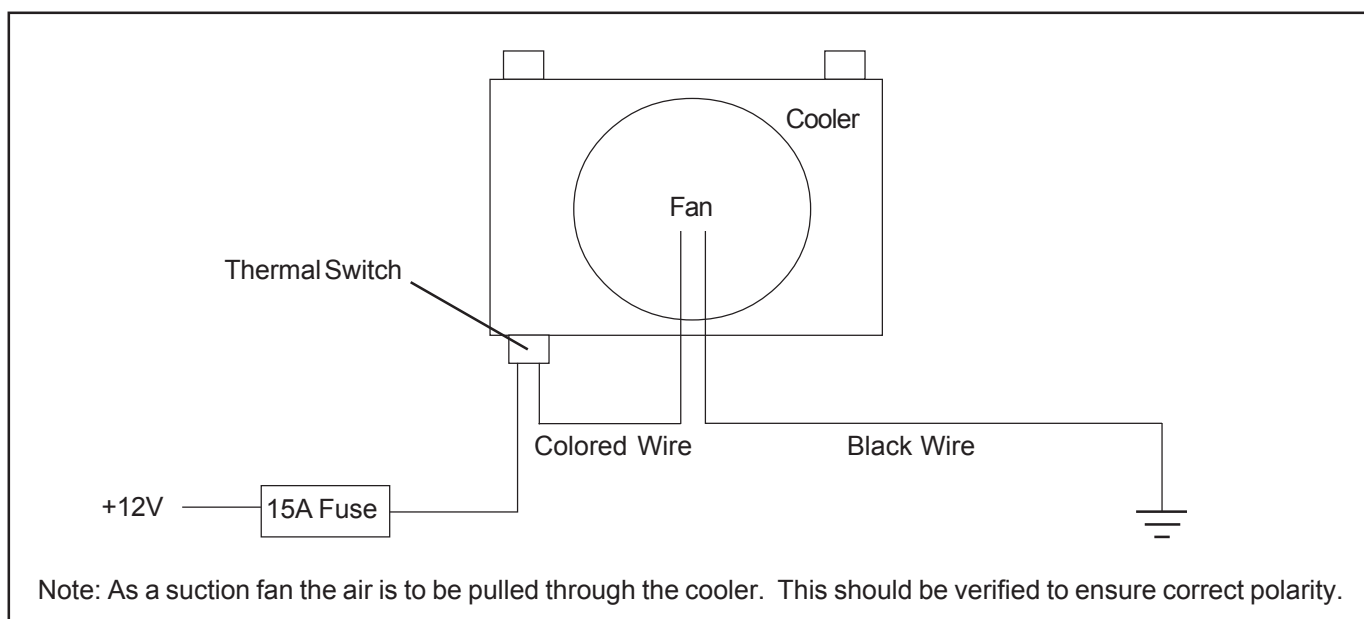

FIGURE 2
The cooling system is comprised of a plate-fin oil-to-air cooler. All channels are turbulized. The inlet-outlet fittings are 1/2" NPTF. The sensor fitting has an M16x1.5 thread. Also included is a 12V DC suction fan. As a suction fan the air is to be pulled through the oil cooler. This should be verified upon installation to ensure correct polarity to the fan. To prevent fan motor damage the maximum current draw should be protected with an in-line 15A fuse (see fig. 2). Furthermore, a bi-metal temperature switch controls the fan ON-OFF points:
STEP 2. Wire the thermal switch and fan as indicated in figure 2. Verify that the fan pulls air through the cooler. If it doesn't reverse polarity.